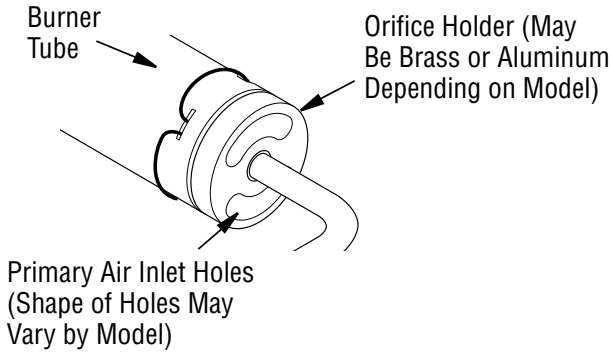

Figure 33 - Orifice Holder On Outlet Burner Tube
2. Inspect burner, pilot and primary air inlet holes on Orifice holder for dust and dirt (see **Figures 33 and 34, page 23**).